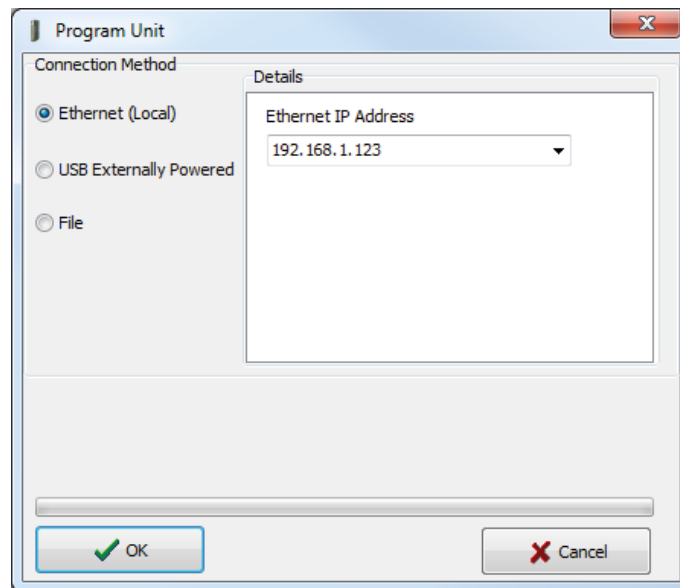

Figure 33 Program Unit
- Program Unit** Displays the Program Unit screen (see Figure 33) where you can choose the method to be used to configure the module: